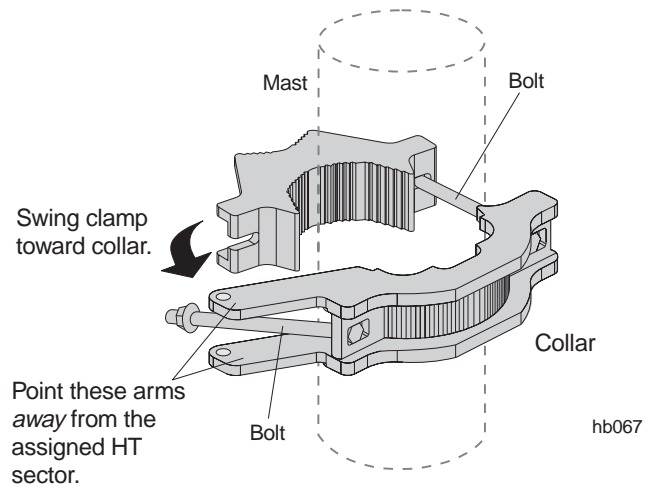

Figure 4-8 Attaching the temporary installation collar to the mast
1. Point the two long arms *away* from the assigned HT sector, as shown in figures 4-8 and 4-9.